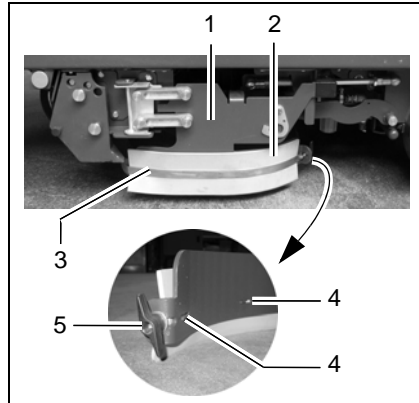

Fig. 31
The deflector (Fig. 31/1) must be fixed in its service position (refer to Section 2.3.1, Point 1).
1. Loosen the wing nut (Fig. 31/5) at the end of the deflector.
2. Slide the clamping rail (Fig. 31/3) in the vehicle's driving direction (forwards) until the clamping rail hooks (Fig. 31/4) are freed and the clamping rail (Fig. 31/3) can be removed away from the vehicle.
3. Remove the old rubber deflector strips (Fig. 31/2).
4. Position the new rubber deflector strips (Fig. 31/2) in place.
5. Mount the clamping rail (Fig. 31/3) from the outside and slide back by hand so that the clamping rail hooks (Fig. 31/4) engage.
Tighten the wing nut (Fig. 31/5) so that it engages in the thread of the clamping rail (Fig. 31/3) and tightens the clamping rail firmly (Fig. 31/3).